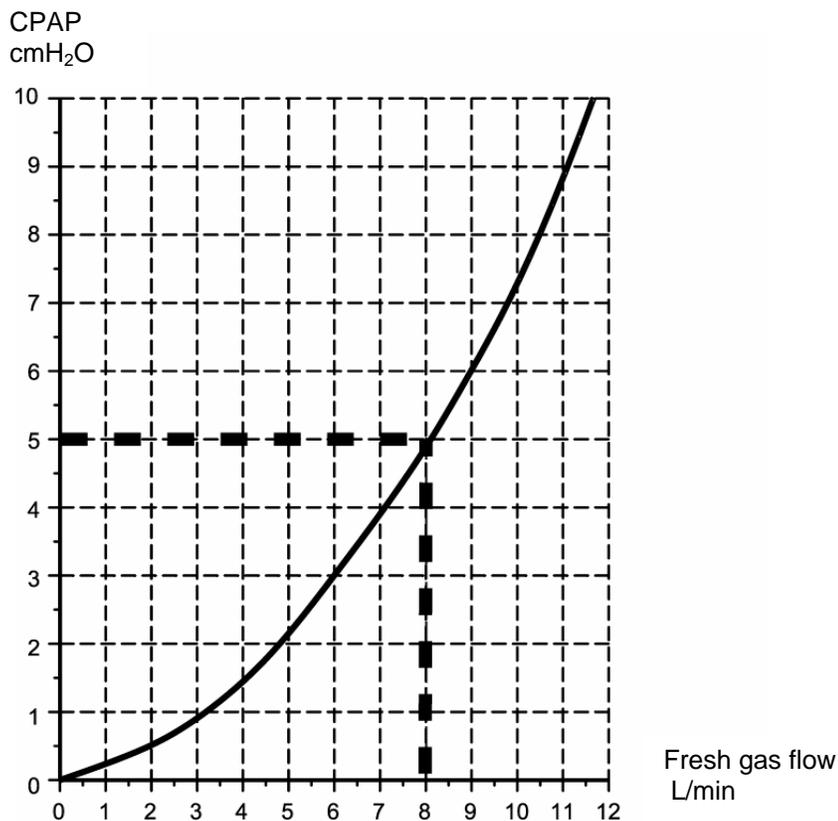

Figure 1 - Flow Pressure Nomogram for the Infant Flow Advance
- 18 Small adjustments to the nasal CPAP flow rate may be required until the display reads the prescribed CPAP level. The relationship between the flow setting and CPAP pressure should be compared with Figure 1 as a reference. If outside the suggested range, check with the troubleshooting section of the manual.
Minor variations between devices occur but the pressure delivered should always be within ± 10% of those shown on the Nomogram (Figure 1). If they are out of specification check that there are no leaks in the patient circuit.